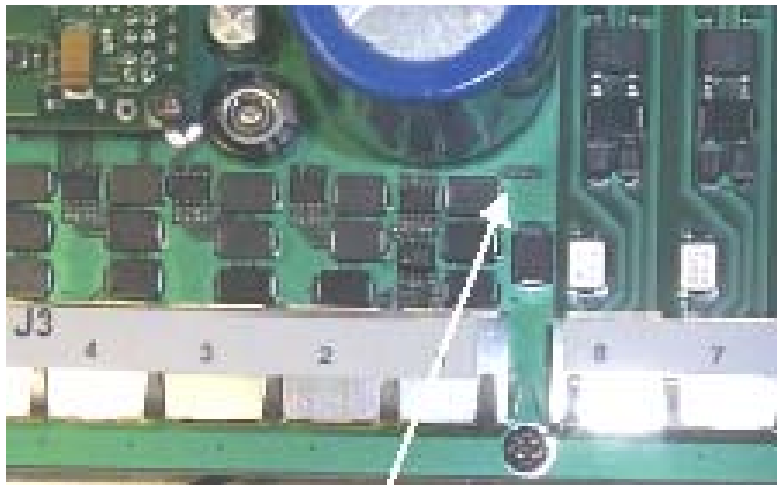

Figure 126: Port indicator LED on Ethernet switch
- the green LED on the circuit board, as shown in Figure 126.